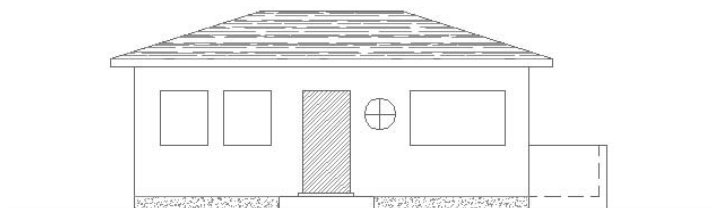

FIGURE 9.7: Hatching the door
5. Right-click, and then choose Preview. Observe the preview, and then right-click again. The door is hatched (see Figure 9.7).